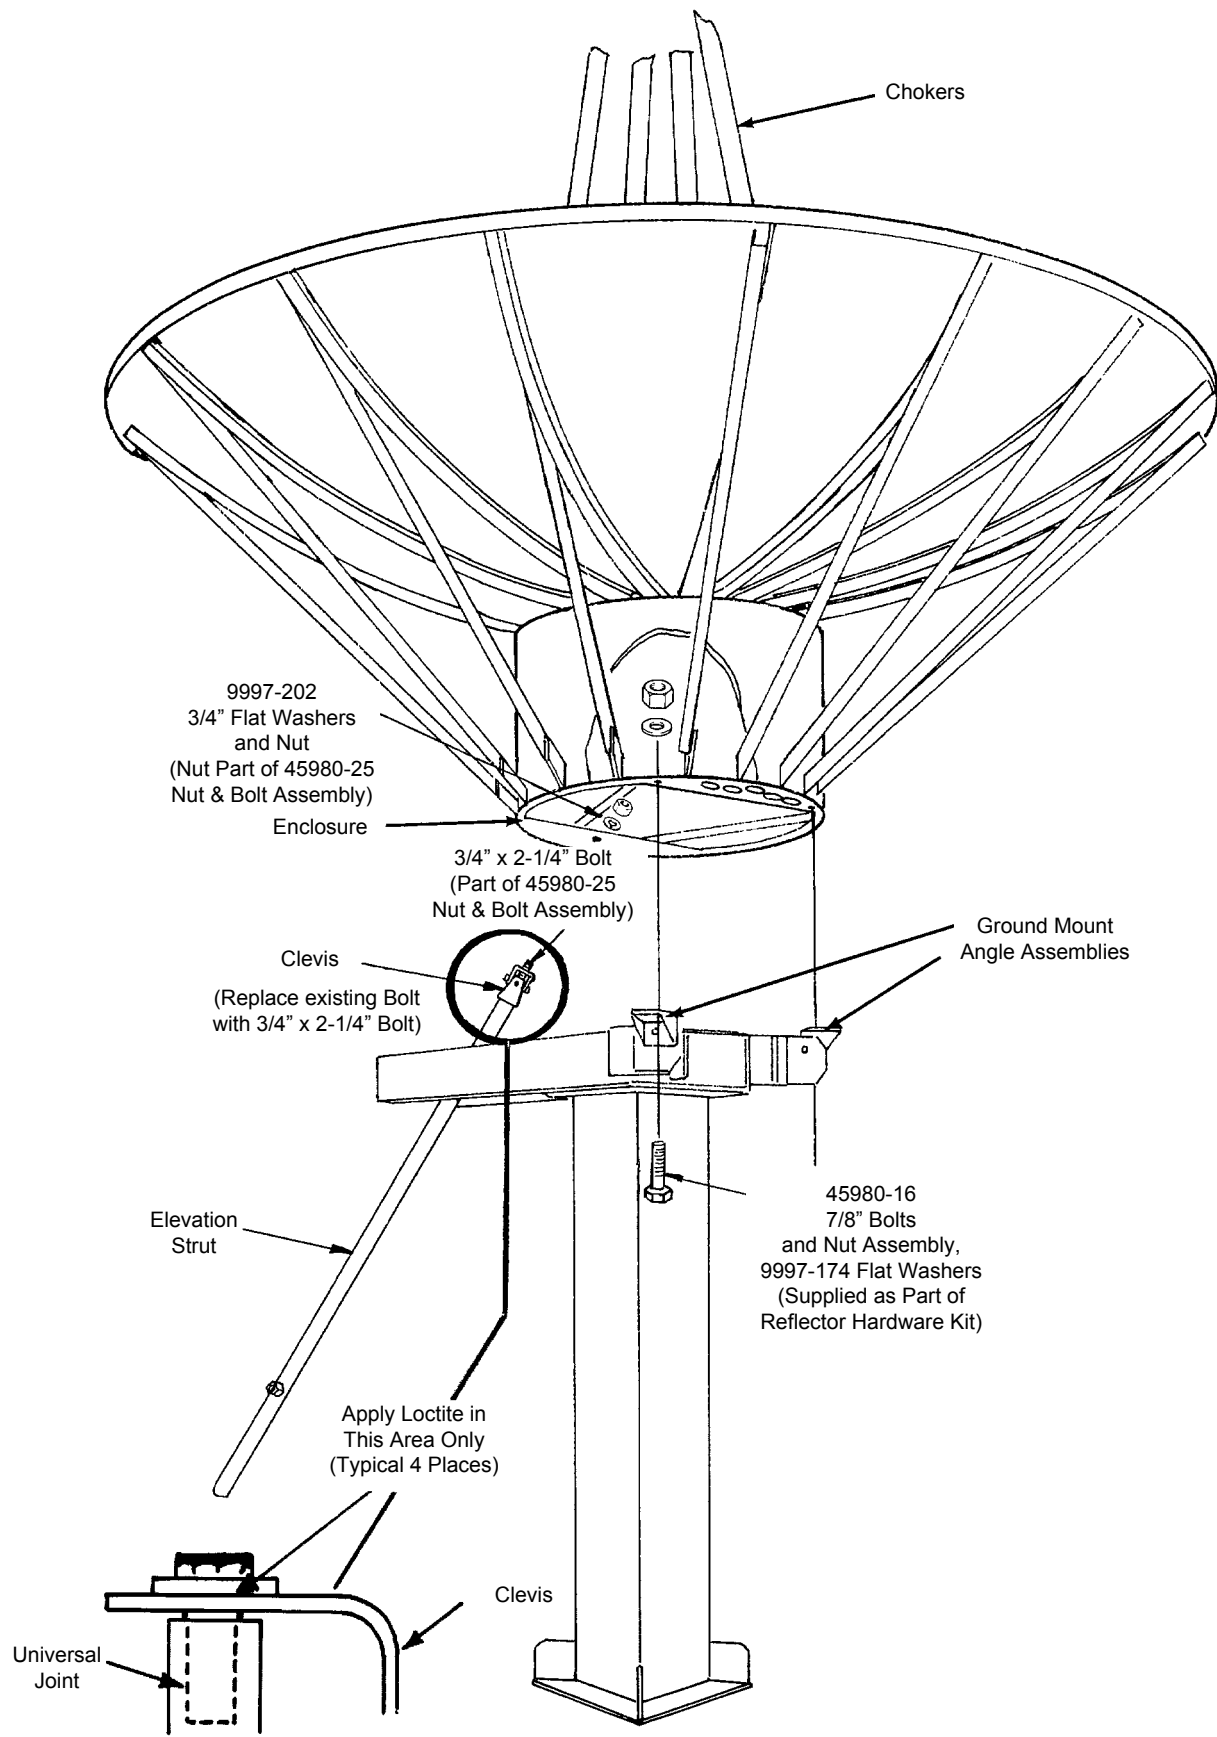

Figure 5-2
5.2 Refer to Figure 5-2. Attach rear of enclosure to corresponding ground mount angle assemblies using 7/8 in bolts, nuts and flat washers with nuts and washers on inside of enclosure.
shown in Figure 5-2. Attach elevation strut to top rear portion of enclosure assembly as shown using 3/4 in bolt, flat washer and nut. Securely tighten all mounting hardware per A-325 hardware tensioning procedure. Attach door panel to enclosure assembly and securely tighten remaining reflector assembly mounting hardware.